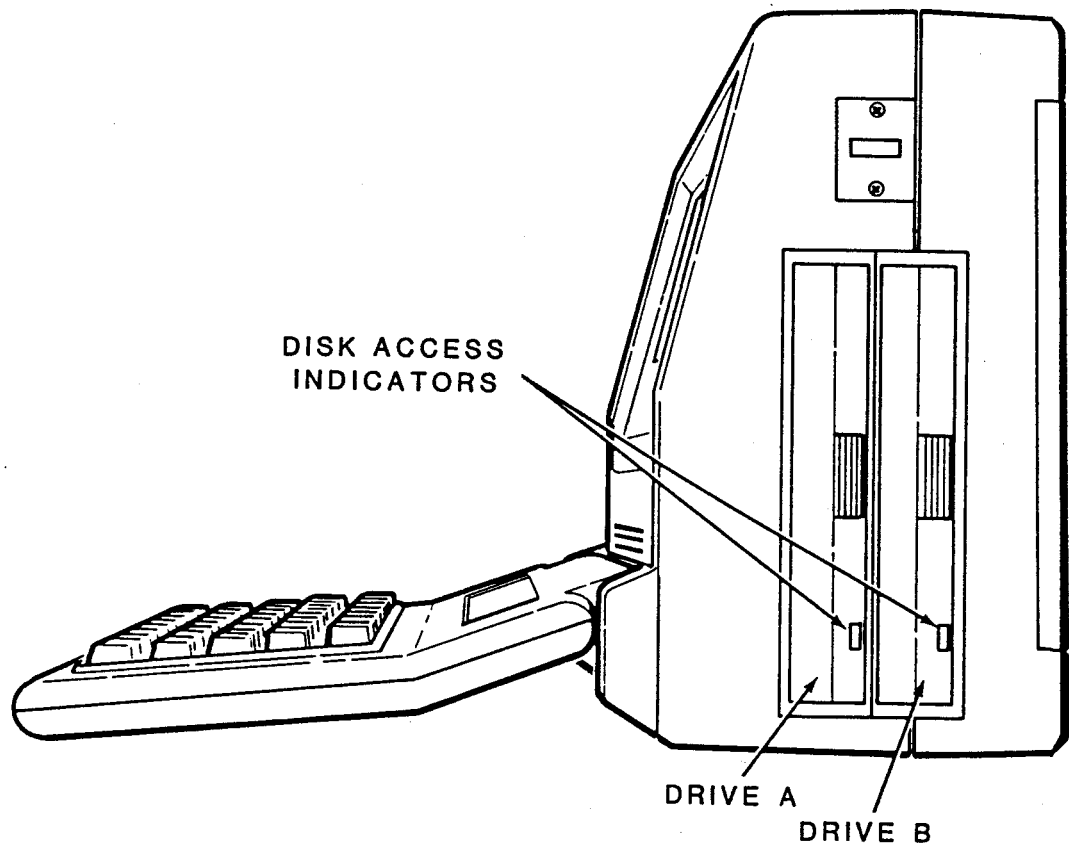

Figure 3-1: Disk Drives
The disk drives are illustrated in Figure 3-1.
- Identification — On two-drive systems, the front drive is designated as drive A and the rear drive as drive B. If the computer has only one drive, it is designated as drive A. The disk drives are illustrated in Figure 3-1.